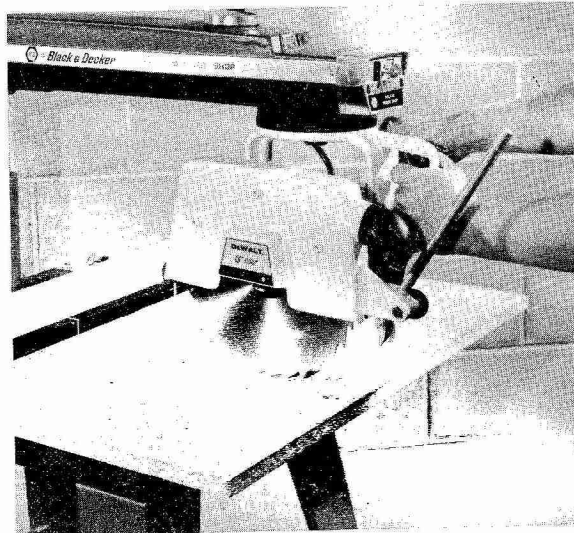

FIGURE 1
- d Lower the arm (saw still running) $\frac{1}{4}$ turn. Pull the saw forward to the end of the arm with your *left hand*. This will cut a groove in the table top $\frac{1}{32}$ " deep. **Tighten Rip Lock.** (Refer to figure 1)
- g Return saw to position shown in figure 1. **Lock Rip Lock** and start motor. Using the yoke clamp handle, release the pressure on the bell and rotate saw counterclockwise, to the outtrip position. This cuts the swing line for outtripping. Loosen rip lock.
- i Return saw to position shown in figure 1 and move to the rear position behind the fence.